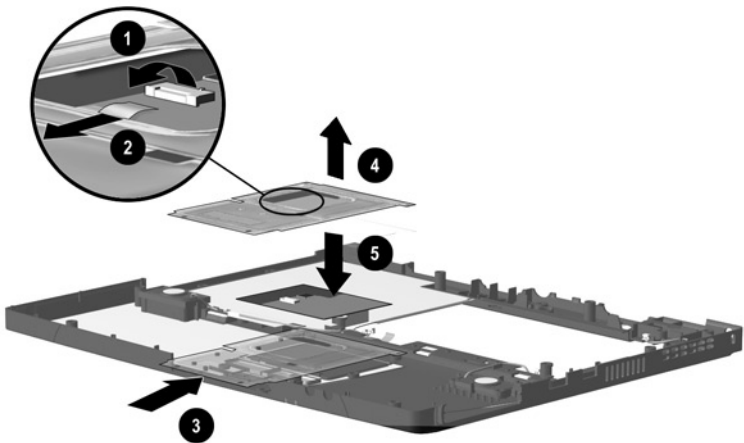

Figure 5-12. Removing the TouchPad
4. Release the ZIF connector ❶ to which the TouchPad cable is attached and disconnect the TouchPad cable ❷ (Figure 5-12).
5. Slide the TouchPad bracket ❸ toward the back of the top cover.
6. Remove the TouchPad bracket ❹ and TouchPad ❺ from the top cover.